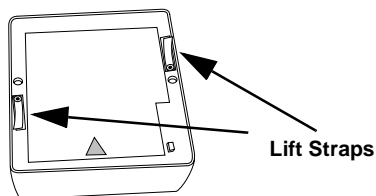

Figure 4-3. Removing the Scanner
- Lift the unit out by the two lift straps (Figure 4-3).